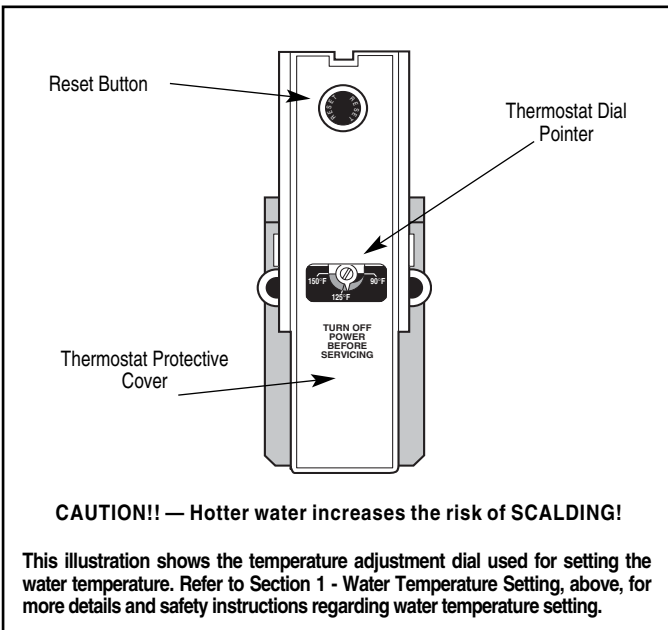

Figure 4. — Thermostat and Protective Cover.
If adjustment is necessary, **turn off** power to water heater, remove the upper jacket access panel and insulation exposing the thermostat. The thermostat protective cover **should not be removed**. Set thermostat dial pointer, with a small screwdriver, to desired temperature. (Refer to Fig. 4.) Replace insulation and jacket access panel. Turn on power to water heater.
**The thermostat protective cover *SHOULD NOT* be removed.** (Refer to Fig. 4.) Press red “RESET” button. Replace insulation and jacket access panel before turning on power to water heater.